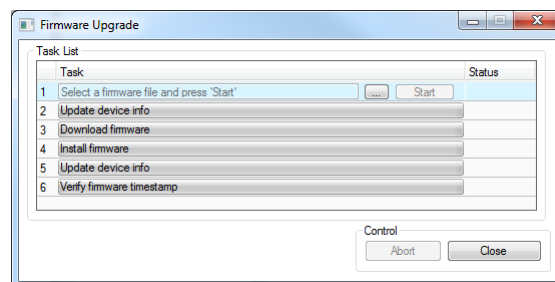

Figure 62: Firmware Update dialog of the Configurator
6. This opens the Firmware Update dialog as shown in Figure 62. Click on the button  and select the firmware image.